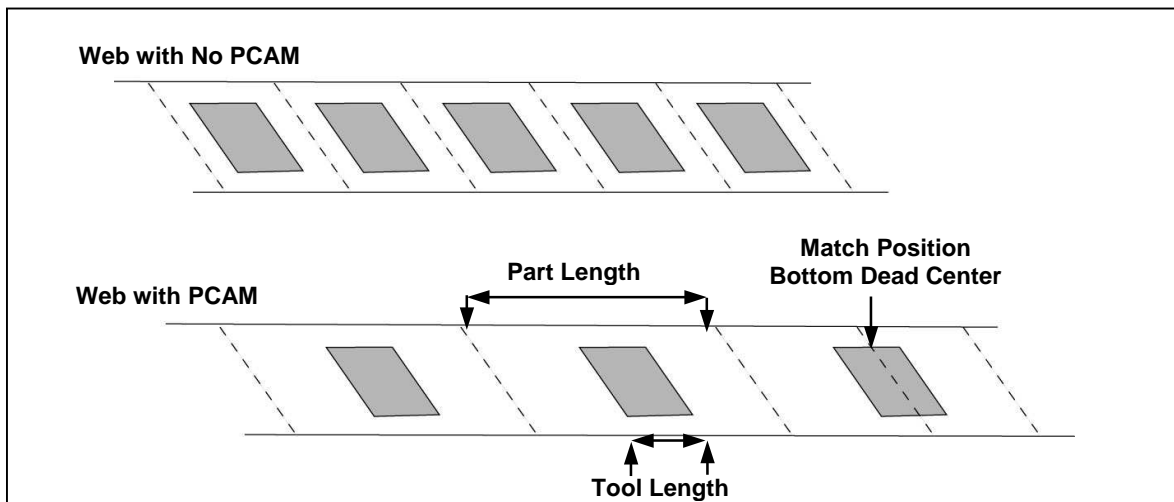

Figure 3-Match Length and Tool Length
Part length is the leading edge to leading edge distance between parts on the web (this includes the waste material between parts). On a sheeting die it is the length of the part you want to cut. See Figure 3.
5. Stop and Jog the machine so the bottom dead center of the tool is in the in contact with the anvil. Figure 3.